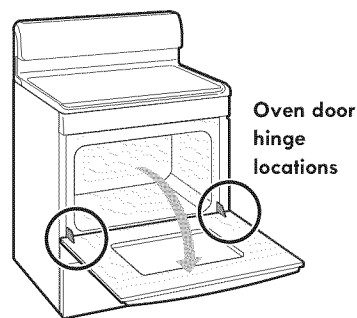

Figure 35: Oven hinge locations
1. Open oven door completely (horizontal with floor - Figure 35).
3. Fully open the oven door (horizontal with floor - Figure 35).